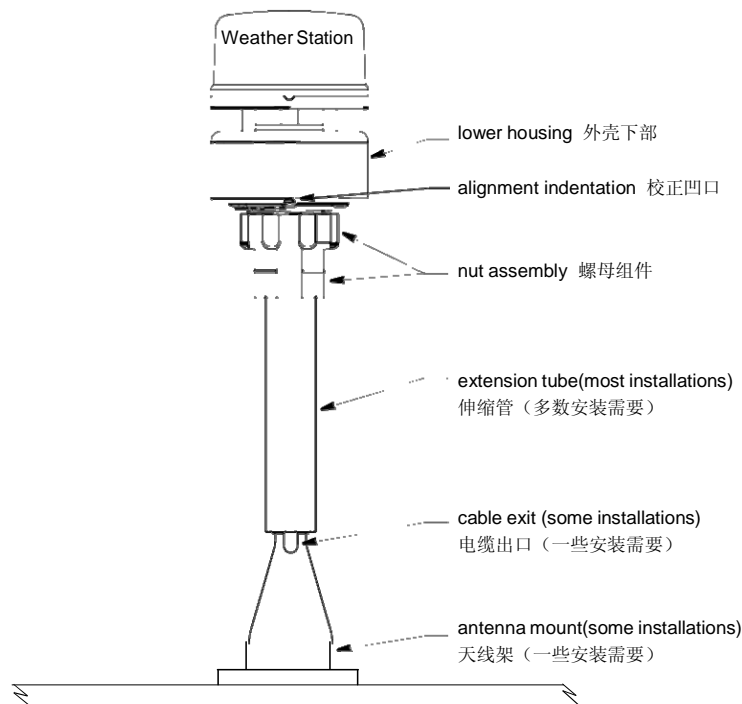

Figure 4. Installation (150WX shown)
2. Position the mounting hardware at a 90° angle to the mounting surface. If necessary, use shims to make the mounting surface level (see Figure 4).
将装备部件与安装平面成90°安装。如必要的话，用垫片使安装平面水平（见附图4）。
6. Screw an extension tube onto the antenna mount if desired (see Figure 4).
如果有要求，可以在天线架上装一个伸缩管（见附图4）。
附图4.安装（显示为150WX）
4. To accurately measure the wind direction, be sure to orient the alignment indentation correctly. Grasp the lower housing of the Weather Station Instrument below the reflector plate and hold it in the proper position (see Figure 4).
为了准确测量风向，要确保校正凹口朝向东。握紧气象站仪器反射盘下面的外壳下部，将他拧到适当位置（见附图4）
5. Slide the captive nut upward and screw it onto the base of the Weather Station Instrument (see Figures 4 and 5). **Hand tighten only.** Do not over tighten. *Be careful not to rotate the Weather Station Instrument changing the alignment or loosen the nut assembly from the antenna mount/extension tube.*
将栓住螺母向上并且将它旋到仪器底座上（见附图4和5）。只能用手拧紧。不要过紧。要小心避免气象站仪器旋转而改变校正指向，或避免天线架/伸缩管的螺母组件松动。